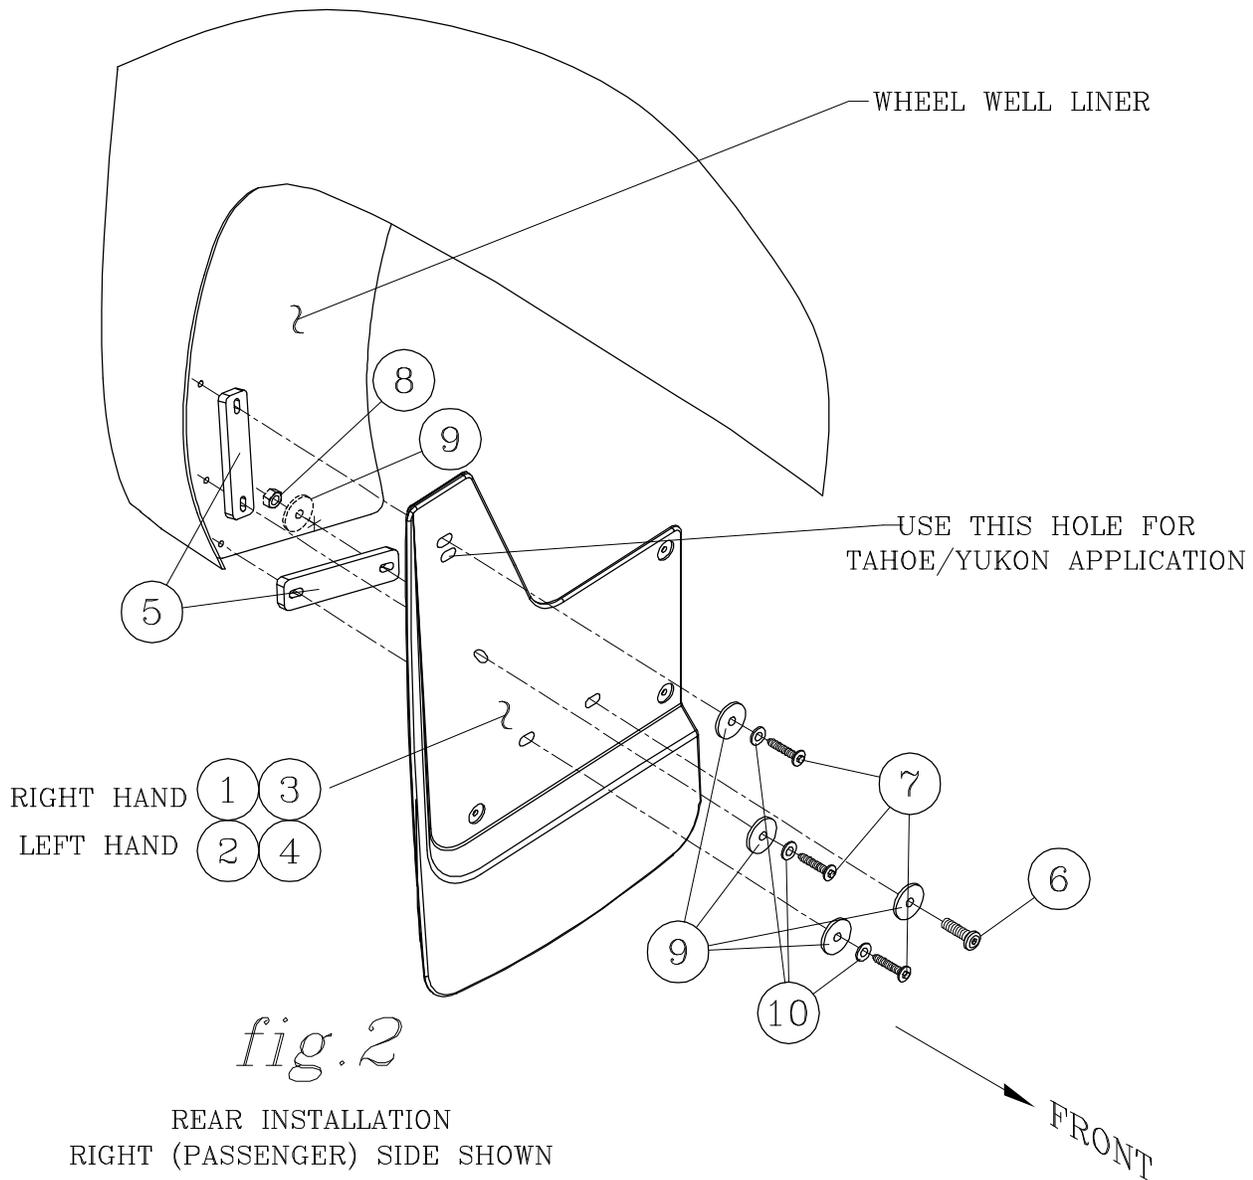

fig.2
- 3.3 POSITION THE SPLASH GUARD AGAINST THE WHEEL WELL FLANGE AND INSTALL THREE PAN HEAD SCREWS WITH FENDER WASHERS (ITEMS #7, 9) THRU THE THREE HOLES AS SHOWN IN FIG. 2. LEVEL THE SPLASH GUARD AND TIGHTEN DOWN.